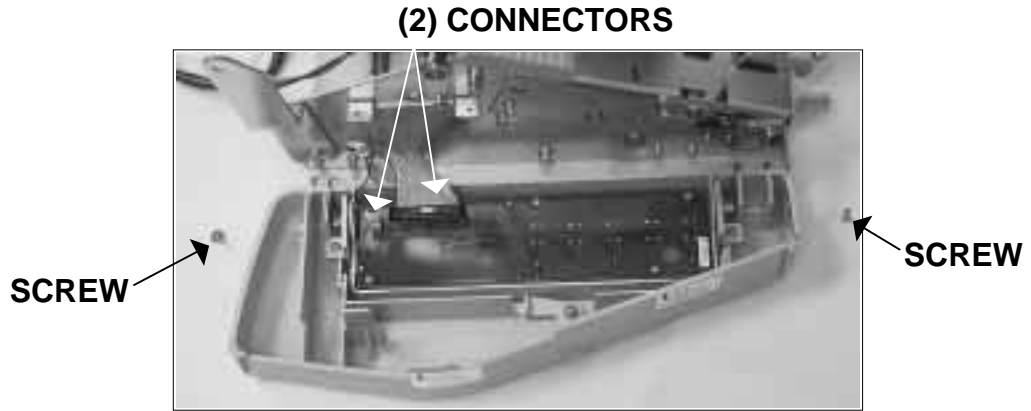

Fig. 6-71
3.	Remove (2) screws, one from each side and lift cover to detach.
4.	Disconnect cables from the display panel PCB. Fig. 6-71